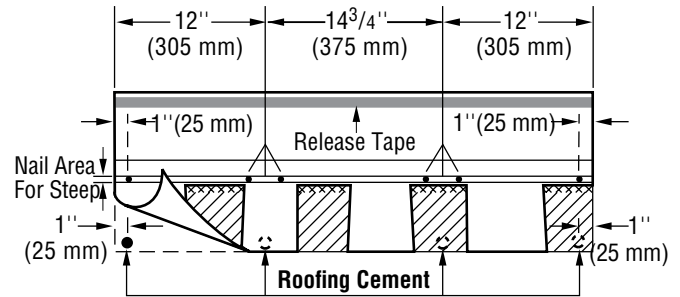

Figure 13-5: Use six nails and four spots of asphalt roofing cement on steep slopes.
**IMPORTANT:** When “six nailing” a full shingle, follow the nail pattern shown in figure 13-5, nails can be placed in the 1-1/2" nailable area.